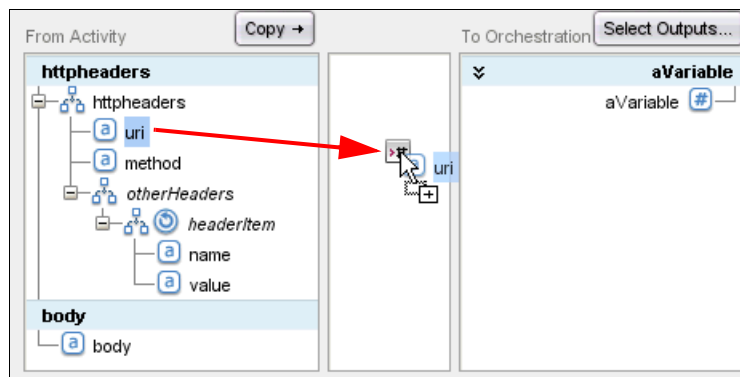

Figure 3-87 Setting the input parameter of a function to a field node value
2. The Number function requires an input parameter. To set the input parameter using a field node, drag the field node to the icon representing the function in the middle pane, as shown in Figure 3-87.